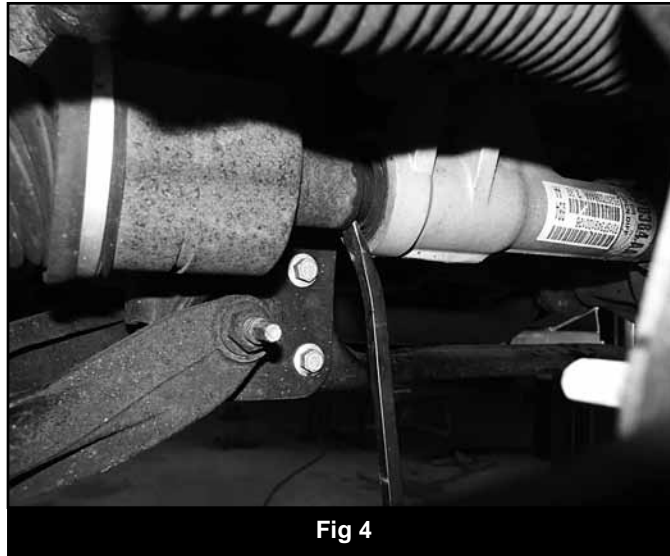

Fig 4
16. Disconnect the CV axles from the differential by carefully prying CV out at the differential to disengage the internal retaining clip (Fig 4). Pry the shaft out just enough to release the clip and leave the axle on the differential at this time.